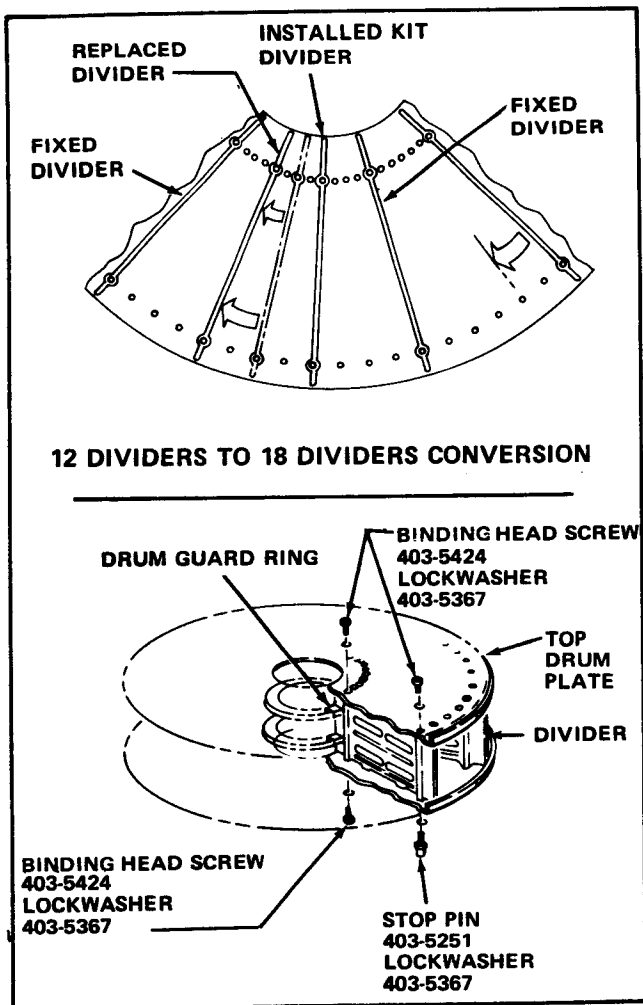

FIGURE 3
F. If the Drum is being converted from a 12 Compartment to 18 Compartment Drum, move the detached Divider to the left 2 holes. There should be a fixed Divider 3 unused holes and the replaced Divider. See Figure 3. Be sure the Drum Guard Ring(s) is in the Slot(s) in the inner edge of the Divider.